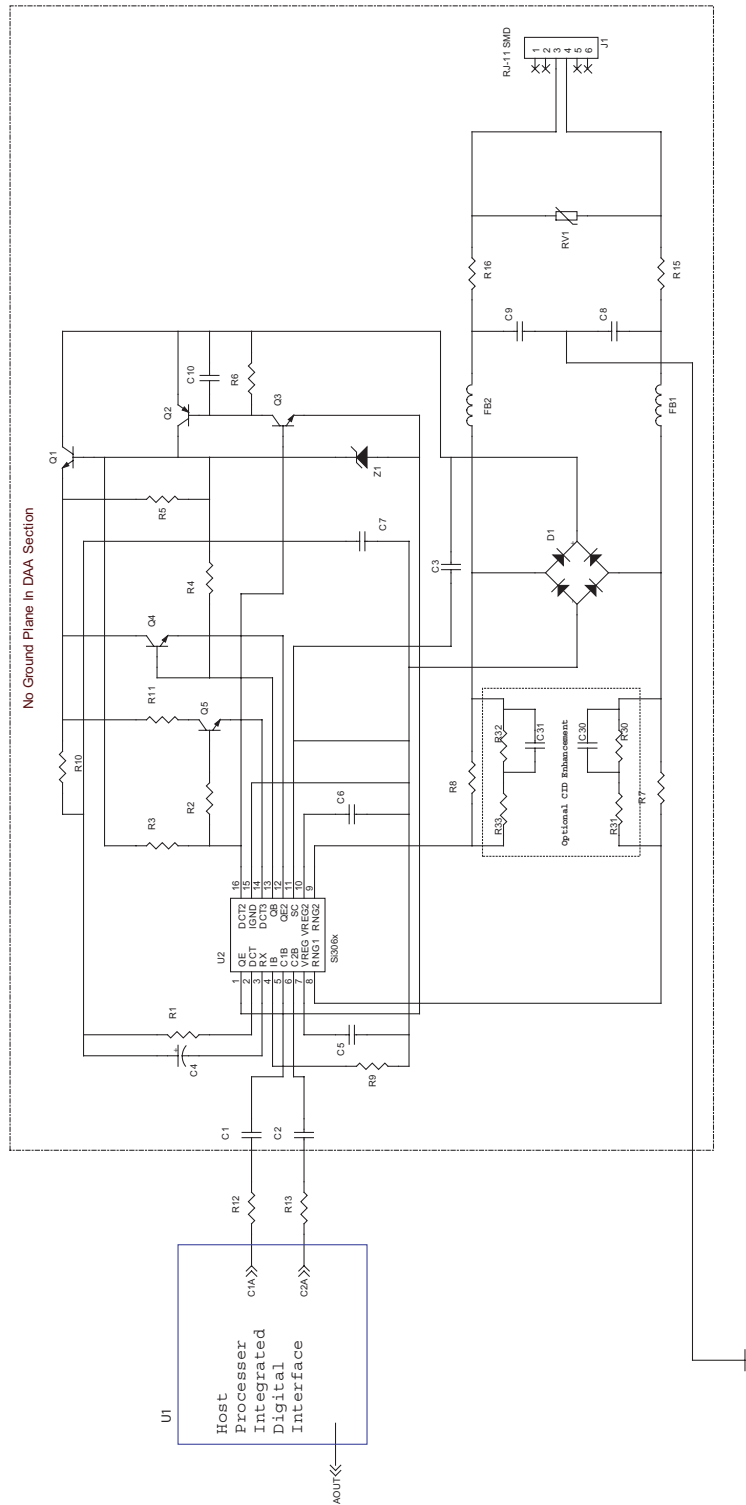

Figure 2. Typical Application Circuit for the Si306x Line-side device
7.  $DR_{CID} = 20 \times \log(\text{RMS } V_{CID}/\text{RMS } V_{IN}) + 20 \times \log(\text{RMS } V_{IN}/\text{RMS noise})$ . VCID is the 1.5 V full-scale level for the typical application circuit in Figure 2.